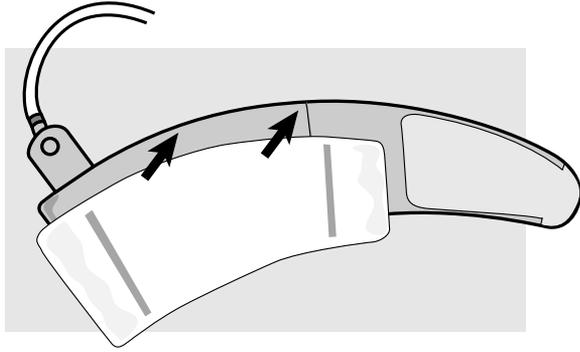

Fig 2 - Positioning the cuff protector
- Apply the adhesive strips on the inside of the cuff, lining the cuff connector up to the edge of the pouch (fig 2).